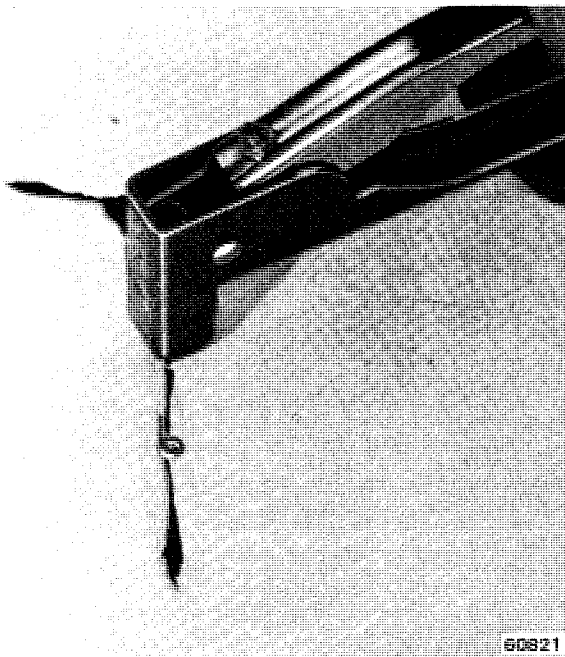

Fig. 3P-7 Installing Pop Rivets In Crack
(5) Mix Structural Adhesive, according to manufacturer's instructions, and apply liberally to crack(s) from inside and outside of enclosure as shown in figure 3P-8.
(6) Use an air file or hand file board for shaping of Structural Adhesive.